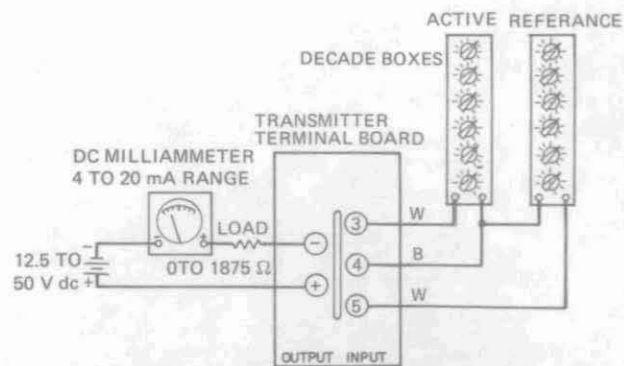

Figure 7
5. Set active decade box (Figure 7) to maximum difference (full scale) value (266.81Ω for 150°F or $50^\circ\text{F } \Delta\text{T}$).
8. Set active decade box (see Figure 7) to reference (zero scale) value (252.89Ω or 100°F).
1. Set up equipment as in Figure 7.